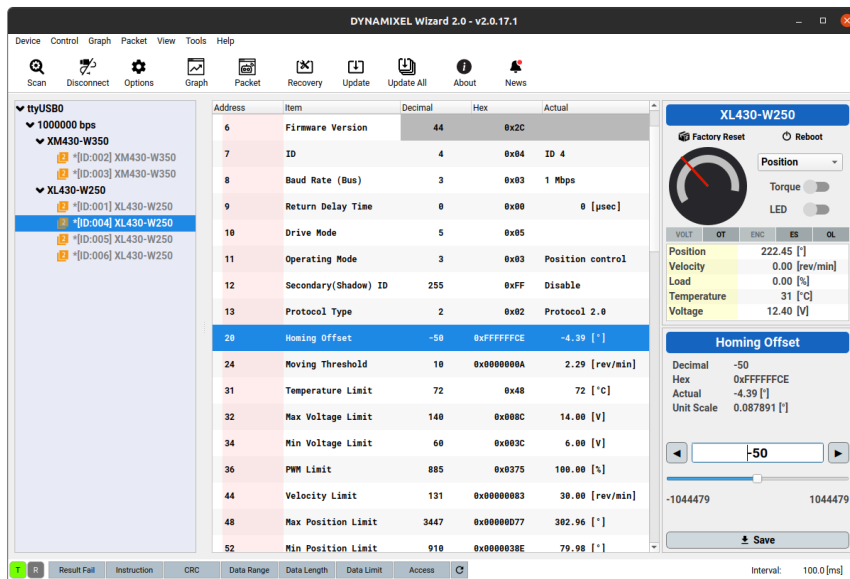

Figure 7.4: "Homing Offset" of the "wrist_angle" joint (ID: 4) of arm 2
- Arm 2, “wrist_angle” joint (ID: 4) adjusted: -50 units, equaling -4.39 degrees, see Figure 7.4